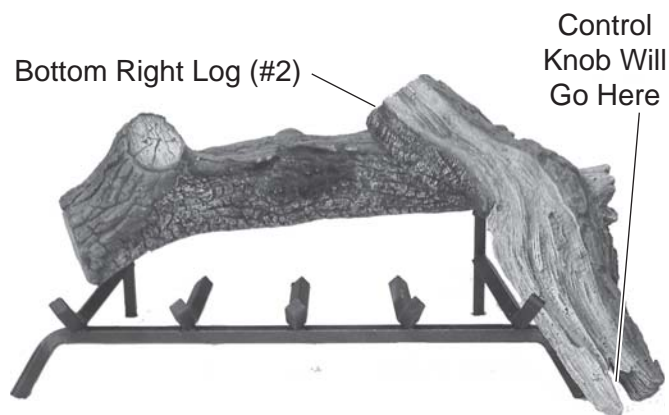

Figure 131 - Placing Bottom Right Log (#2)
3. Place Bottom Right Log #2 along outside of grate. Rest end on Rear Log #1. Control knob will stick through bottom notch of log. See *Figure 131*.